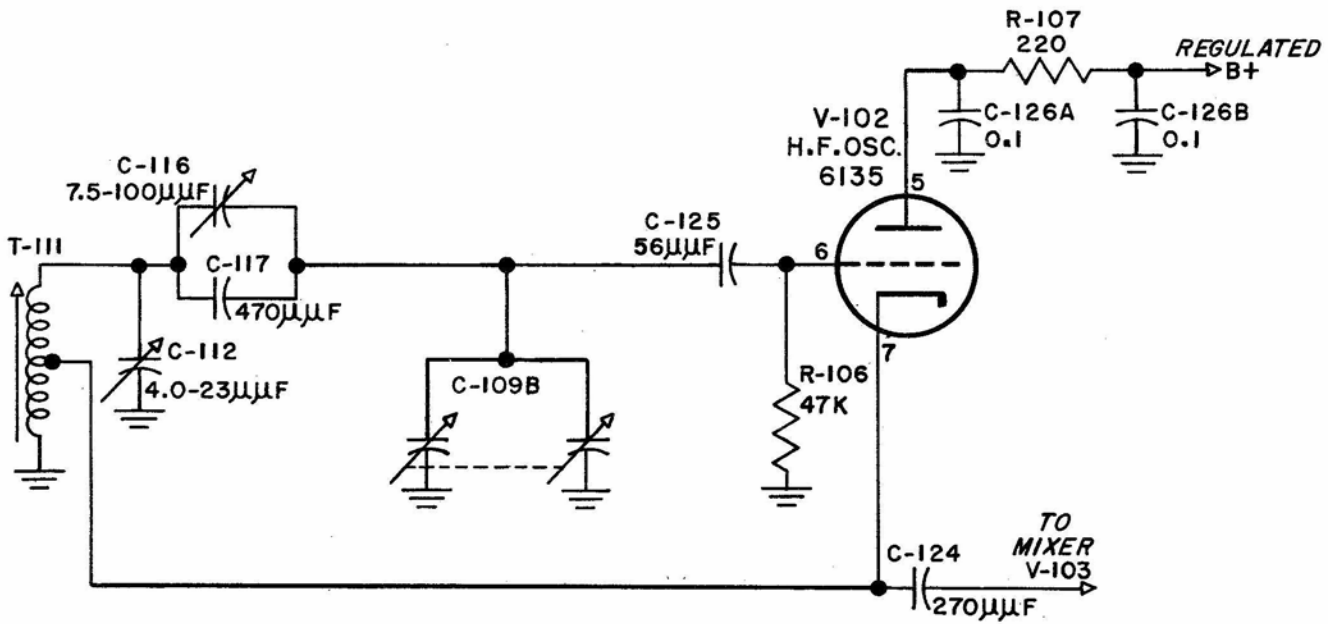

Figure 2-3. H.F. Oscillator V-102, Simplified Schematic Diagram
c. H.F. OSCILLATOR V-102 CIRCUIT DETAILS. (See Figures 2-3 and 7-13).—High-frequency oscillator V-102 is a type 6135 triode in a conventional Hartley oscillator circuit with the plate of the oscillator tube at R.F. ground potential. Switch section S-101C selects the oscillator tuned circuit for the band in use and at the same time shorts out the unused tuned circuits. This switch also connects section C-109B of the Main Tuning capacitor into the selected oscillator tuned circuit. In the SW3 position only the large stator of C-109B is connected into the oscillator tuned circuit of that band, the small stator being shorted to ground. Simplified schematic diagram, Figure 2-3 illustrates the signal circuits with the Band Selector switch in the BC position. The oscillator tuned circuit is composed of oscillator coil T-111, variable trimmer capacitor C-112, padder capacitor C-117 in parallel with variable padder capacitor C-116, and section C-109B of main tuning capacitor C-109. C-109B determines the frequency of the oscillator as the receiver is tuned to signals in normal operation. Variable inductor T-111, variable trimmer capacitor C-112 and variable padder capacitor C-116 are adjusted for proper tracking of the oscillator with the R.F. amplifier and mixer tuned circuits. Capacitors